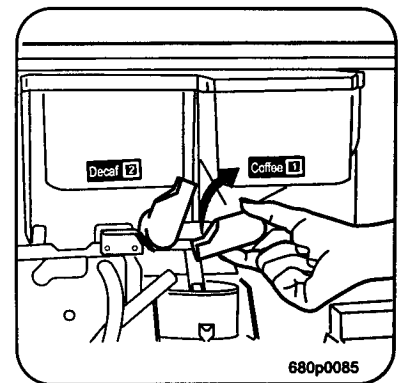

Figure 3
1. Rotate the canister chutes upward as shown (see figure 3).